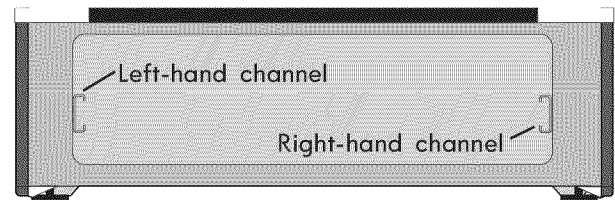

Figure 56: Channel alignment
2. Carefully line up both sides of the warmer drawer glide rails to the outer compartment glide channels located inside the empty warmer drawer compartment (See Figure 56).